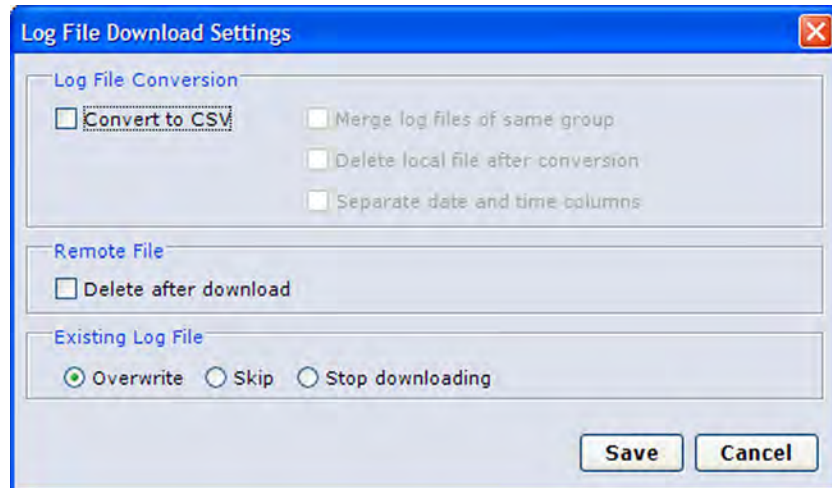

Figure 49 Log File Download Settings Window
4. To set your download options, select **Settings**. The **Log File Download Settings** window shown in Figure 49 on page 92 is displayed.